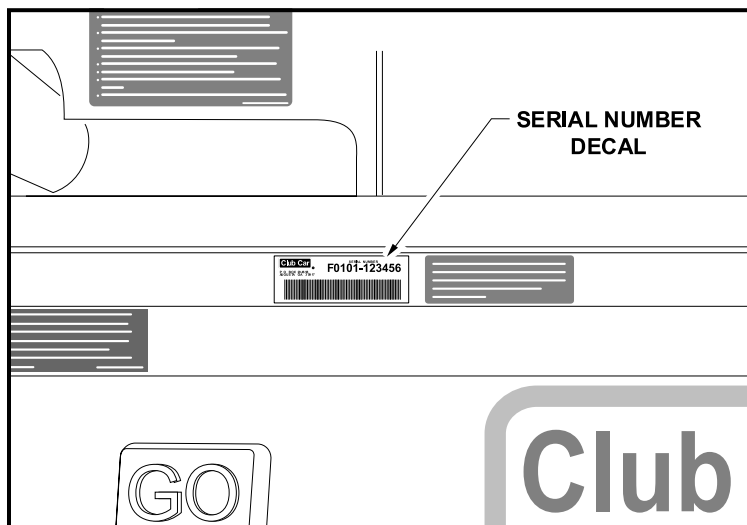

Figure 2 Serial Number
The serial number of each Club Car vehicle is printed on a bar code decal mounted on the frame directly above the accelerator pedal (Example: FG0101-123456) (**Figure 2, Page 11**). There is also a second serial number decal mounted on the front body frame behind the center dash panel. The center dash panel must be removed to access it. **See following NOTE.**
- ALWAYS HAVE THE VEHICLE SERIAL NUMBER AT HAND WHEN ORDERING PARTS OR MAKING INQUIRIES (**FIGURE 2, PAGE 11**).